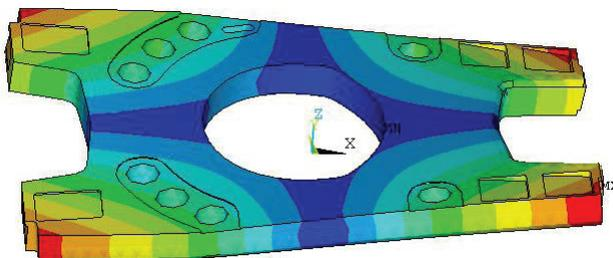

Figure 2: One of the component models used in the yaw system analysis
The first step in modelling the yaw system with DS is to subdivide the system in components. Secondly, all components must be modelled. We decided to model most components using the finite element (FE) method (see figure 2). This method is straightforward since 3D CAD models of most components already exist. However, for the more complex yaw gearbox a tailor made model was created in Matlab. Some of the models were validated by real life vibration measurements of the components to make sure the models predict the right dynamics.